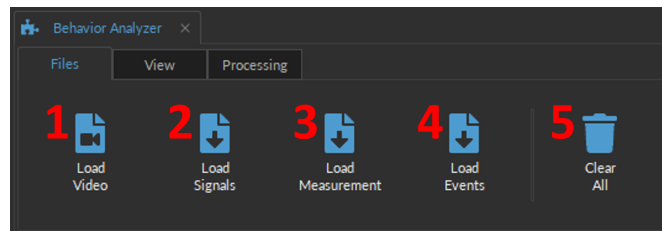
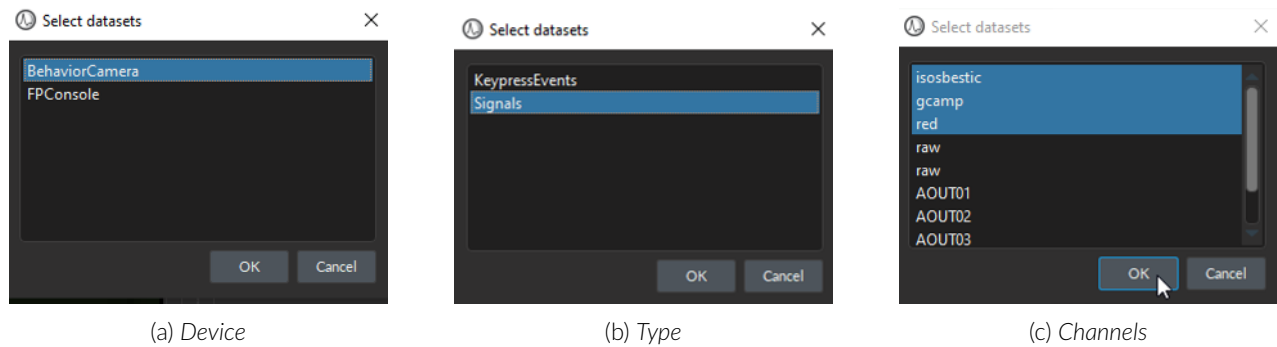
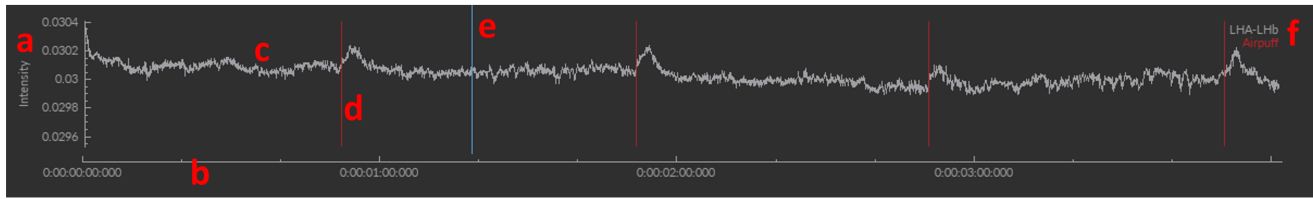

Figure 15.3: Behavior Analyzer, Files tab
Figure 15.4: Select Datasets
Figure 15.15: Signal View, graph
The **File** tab (Fig. 15.3) is primarily used to load and save the data. The following details the specific features of each button, as per Fig. 15.3:
1. The **Load Video** button (Fig. 15.3, 1) will open the File Explorer window where users can select any saved video that are in either .avi or .mp4 format. This does NOT necessarily need to be video data recorded with *Doric Neuroscience Studio*. Note that a warning will pop up if Video and Signal data are not the same lengths since this could affect data alignment.
2. The **Load Signals** button (Fig. 15.3, 2) opens a File Selection Window where users can select the .doric file of a previous recording and import it into the module. The file must contain both time and signal data. Once the file is selected, a **Select Dataset** window will pop up (Fig. 15.4), allowing the user to specify which device (Fig. 15.4a), signal type (Fig. 15.4b), and the channels (Fig. 15.4c) to include for data processing. Only the selected channels will be displayed within the **Signal View**. Multiple channels can be selected at once.
3. The **Load Measurement** button (Fig. 15.3, 3) allows users to import previous measurements (Animal Tracking or Motion Score) from a .doric file into **Signal View**. Data will be pulled from *DataBehavior/Measurement* folder within the .doric file.
4. The **Load Events** (Fig. 15.3, 4) allows users to display **Keypress Events** from a .doric file and overlay it on the signal data in **Signal View** as vertical lines, at the appropriate time points. Select **KeypressEvents** within the **Select Dataset** window (Fig. 15.4b) to import them into the module.
5. The **Clear all** button (Fig. 15.3, 5) deletes all data currently loaded in the module. This data cannot be recovered, so ensure the data is properly saved before clearing it.
- a) The **Y-axis** (Fig. 15.15, a) for loaded signal, represents the intensity of the pixel, which is unitless. For the **Animal Speed**, the unit is in pixel/second, while the **Animal Motion Score** is plotted with Arbitrary Units (AU).
- b) The **X-axis** (Fig. 15.15, b) represents the time in d:hh:mm:ss:zzz.
- c) The **Trace** (Fig. 15.15, c) is the curve of the signal, corresponding to fluctuations in pixel intensity, from which $\Delta F/F_0$ will be calculated.
- d) The **Event indicators** (Fig. 15.15, d) are the overlaid **Keypress Events**, which can be imported using the **Load Events** button (Fig. 15.3, 4).
- f) The **Legend** (Fig. 15.15, f) displays the color code of the graph traces. The trace name of the signal is always included and, when present, keypress event(s) are also displayed.